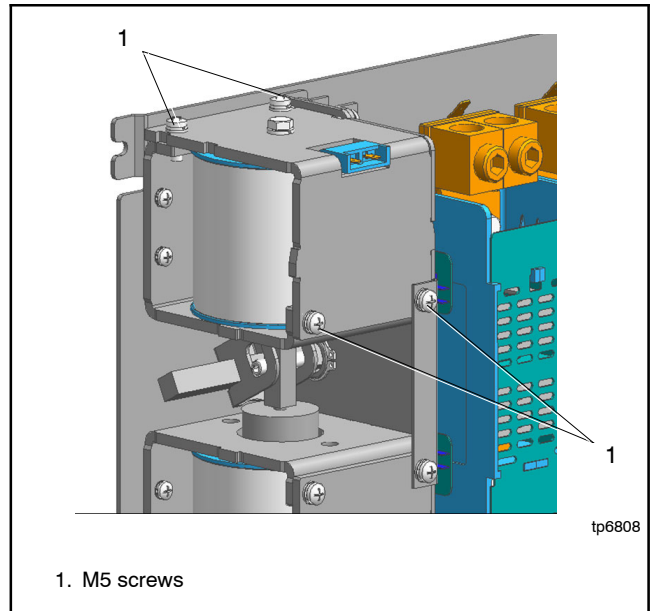

Figure 7-75 Install Coil Assembly
4. Tighten the M5 screws at four locations. Tightening torque for the M5 screws: 3 Nm. See Figure 7-75.